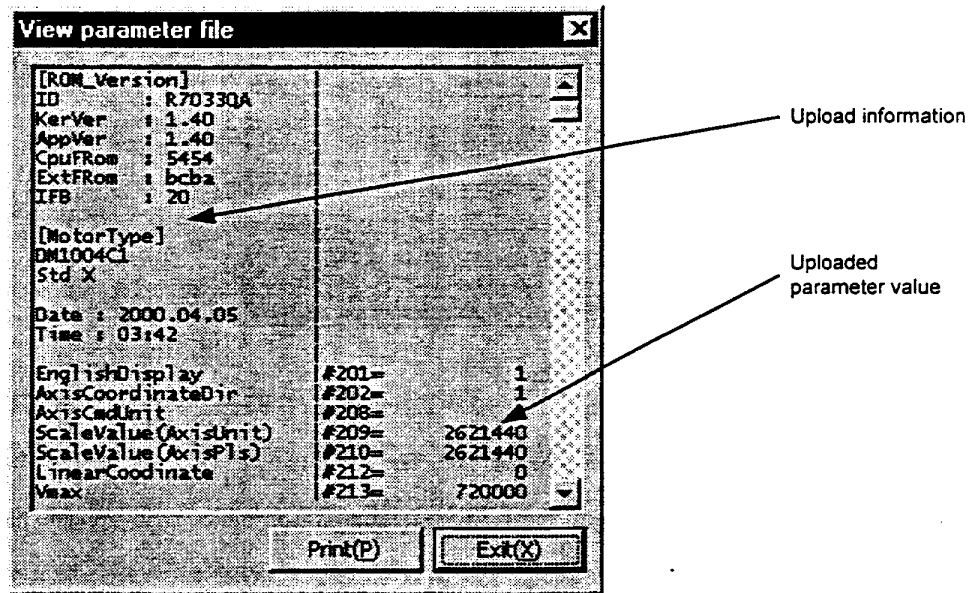

Figure 7.29 "Parameter file display" dialog box
- 1) Click "View file (V)" in the "Parameter Manager" dialog box.
- 3) Click "Open (O)" to begin displaying the file contents in the "Parameter file display" dialog box (see Figure 7.29).
- 4) If you want to print the file, click "Print (P)."
- 5) Click "Exit (X)" and return to the "Parameter Manager" dialog box.